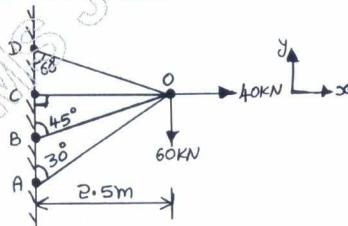

Fig.Q10
- 10 Analyze the truss joint as shown in Fig.Q10 by stiffness matrix method with system approach and also tabulate the member forces. Cross section area of all members are  $1000 \text{ mm}^2$  and  $E = 2 \times 10^5 \text{ N/mm}^2$ .